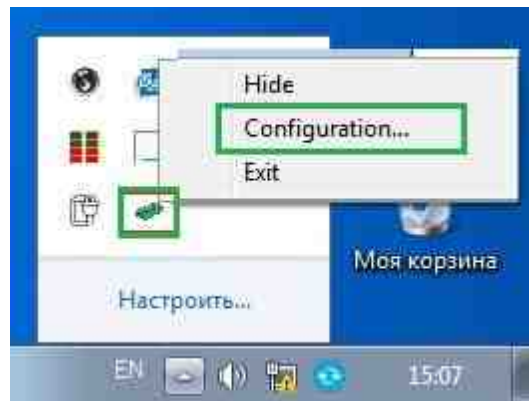

Fig.8.5 Context menu of the program "ZET7xxx OPC Server"
6. After launching the program, it will automatically hide in the notification area on the task-bar. By clicking the right mouse button on the program icon "ZET7xxx OPC Server" you should call up the context menu, and then activate the "Configuration ..." option (Fig.8.5).